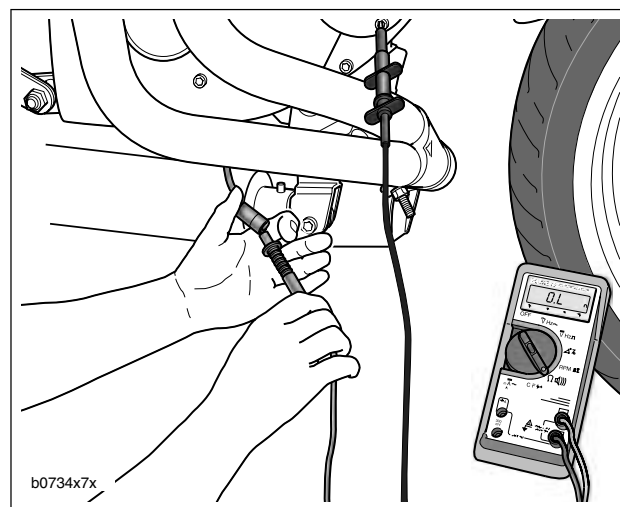

Figure 7-41. Test for Grounded Stator
2. See Figure 7-41. Connect an ohmmeter.